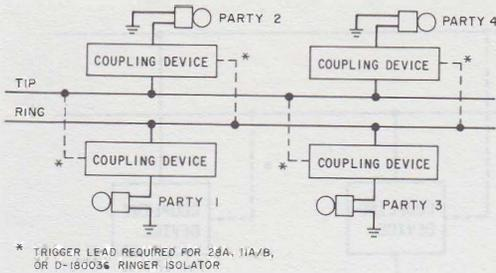

Fig. 3—Four-Party Semiselective Grounded Ringing
4.03 Four party semiselective ringing is accomplished by connecting the ringers of two parties from the ring side of the line to ground and the ringers of two other parties from the tip side of the line to ground either directly, or through a coupling device (Fig. 3). Coded ringing is used to differentiate between stations on the same side of the line.